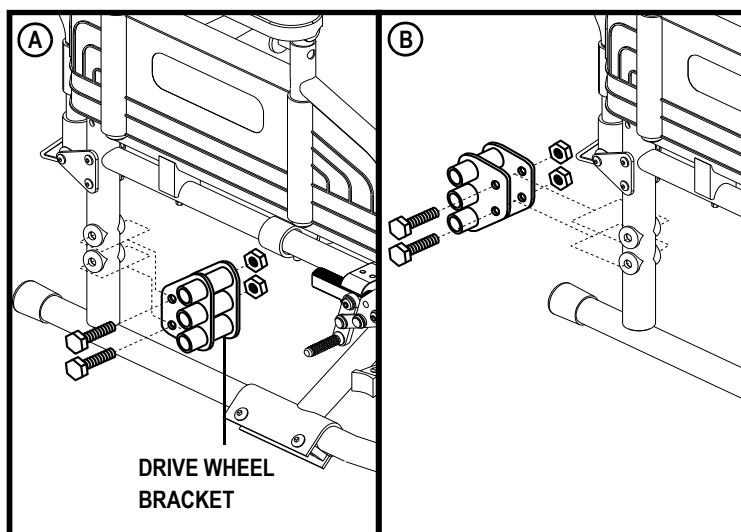

Figure 13. Drive Wheel Position Adjustment
3. Remove the hardware that fastens the drive wheel bracket to the frame. See figure 13.